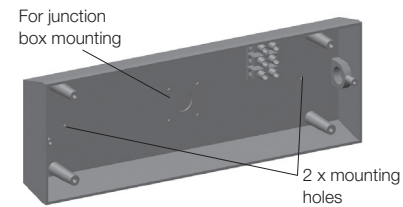

Figure 3
5. Use appropriate mounting as shown in figure 3. Drill through the metal enclosure and mark holes location. Secure the fitting using appropriate fixings (not supplied) depending on the type of building construction material used.